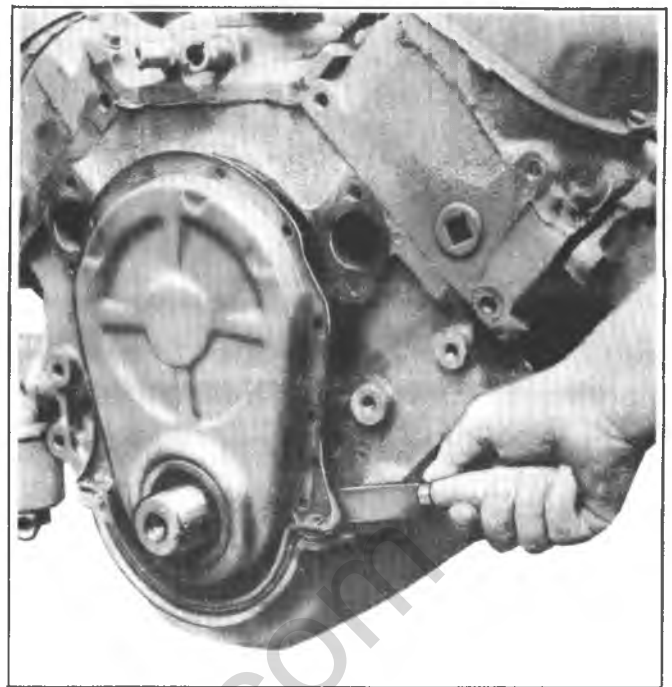

Fig. 6A5-31--Cutting Tabs on Oil Pan Front Seal
- c. Pull damper into position as shown in Figure 6A5-30.